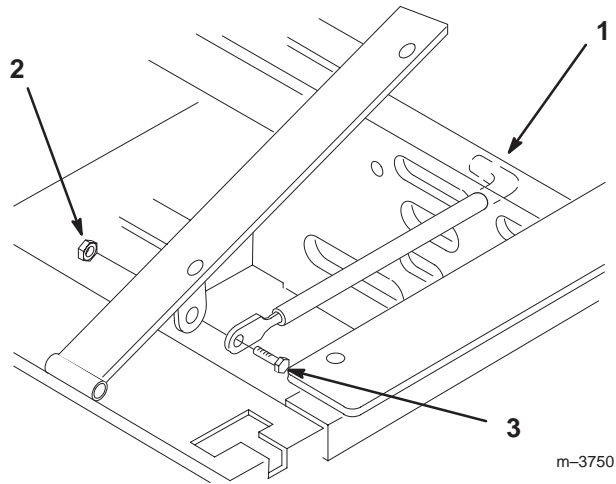

Figure 3
1. Tilt seat up. Remove locknut (5/16 in.) from bolt attaching seat retaining rod to seat frame (Fig. 3).
2. Remove retaining rod from seat and insert the **L** shaped end of the rod into the hole directly above the left-side hydraulic pump (Fig. 3).
- Place the seat retaining rod to the outside of the mounting tab of the seat frame and secure with one bolt (5/16 x 1 in.) and locknut (5/16 in.) (Fig. 3).